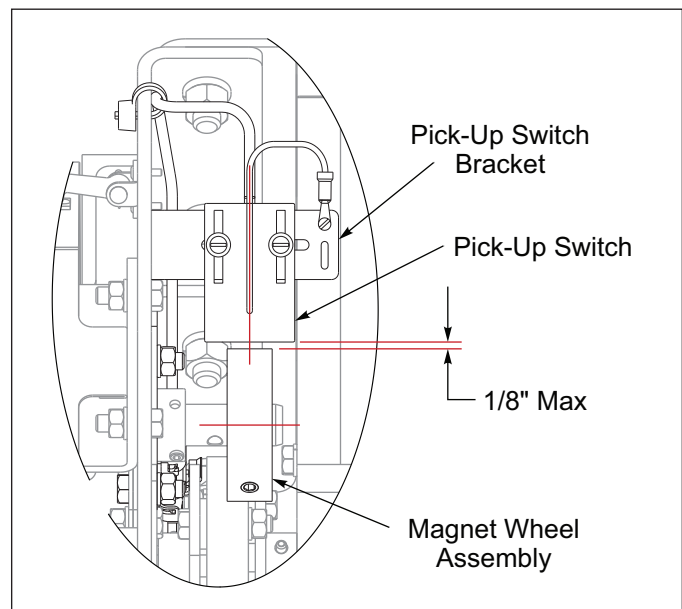

Figure 2-12: Pick-Up Switch Adjustment
7. Adjust the Pick-Up Switch on the Pick-Up Switch Bracket so the centerline of Magnet Wheel Assembly and Pick-Up Switch are horizontally and vertically aligned with maximum 1/8" between the Magnet Wheel Assembly and the Pick-Up Switch. Tighten #8-32 Screws. **See Figure 2-12.**